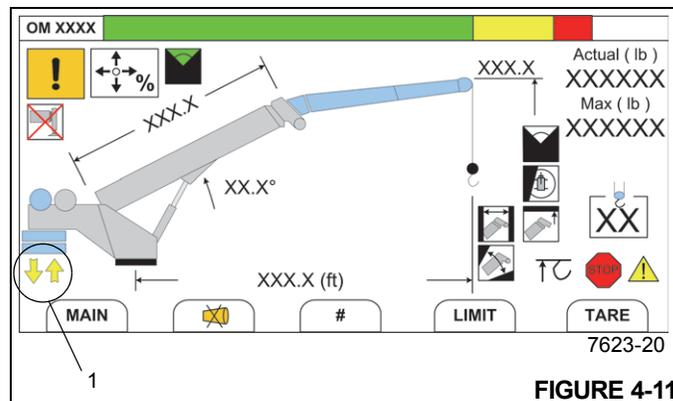

FIGURE 4-11
3. Set display in Operator’s Console to the RCL Operating Mode Screen (Figure 4-11) (see *Section 7, Rated Capacity Limiter*).
4. While watching the display, rotate superstructure until Counterweight Removal Slew Position Indicator (yellow arrows) (1, Figure 4-11) appears in the display, which indicates the rear of the superstructure is nearly directly above the Removable Counterweight stowed on the carrier deck.
4. While watching the display, rotate superstructure until Counterweight Removal Slew Position Indicator (yellow arrows) (1, Figure 4-11) appears in the display, which indicates the rear of the superstructure is nearly directly